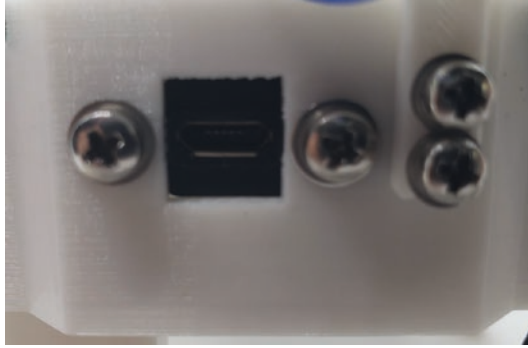
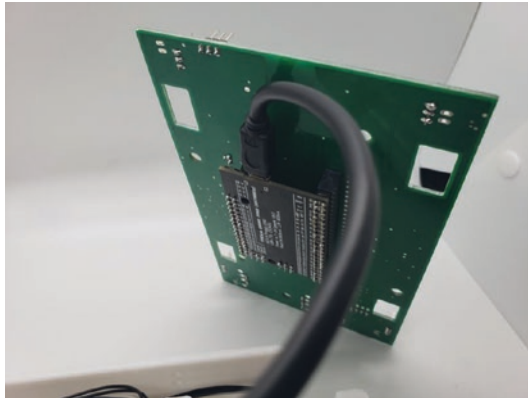

Figure 8-59. *Attach the micro USB panel mount*
Figure 8-60. *Attach the panel mount to the MEGA 2560 Pro*
15. Mount the micro USB panel mount with 2 x M3 10mm screws. See Figure 8-59. Then attach it to the MEGA 2560 Pro microcontroller. See Figure 8-60.